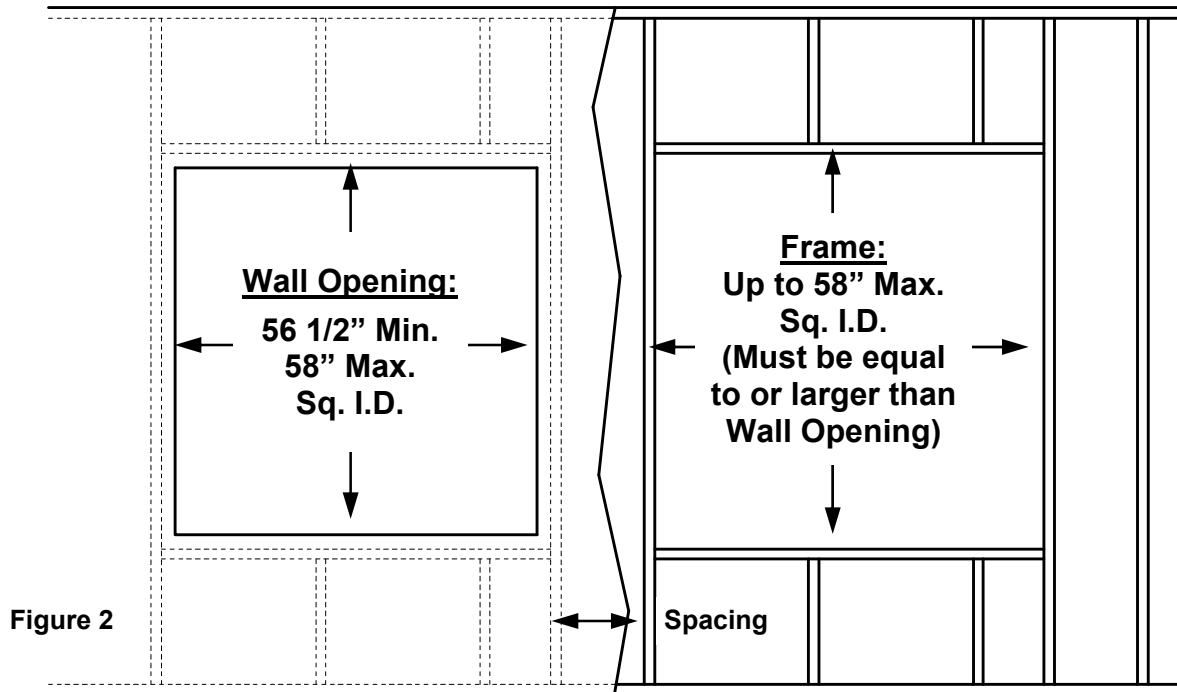

Figure 2
For optimum performance, both the Wall Opening and the Frame square Inside Dimension (ID) should be 58". However, the Wall Opening ID may be between 56 1/2" and 58" square. The Frame ID may also be between 56 1/2" and 58" square, but must be equal to or larger than the wall opening. See Figures 2 (for 2x4 frame construction) or 3 (for 4x4 post construction) below.